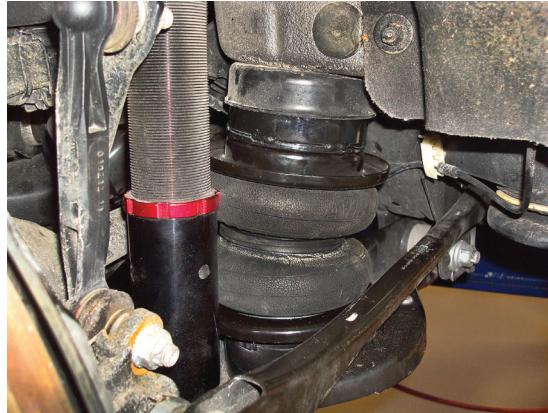

fig. D.22
8. Align the upper bracket into upper spring seat (Fig. D.22).